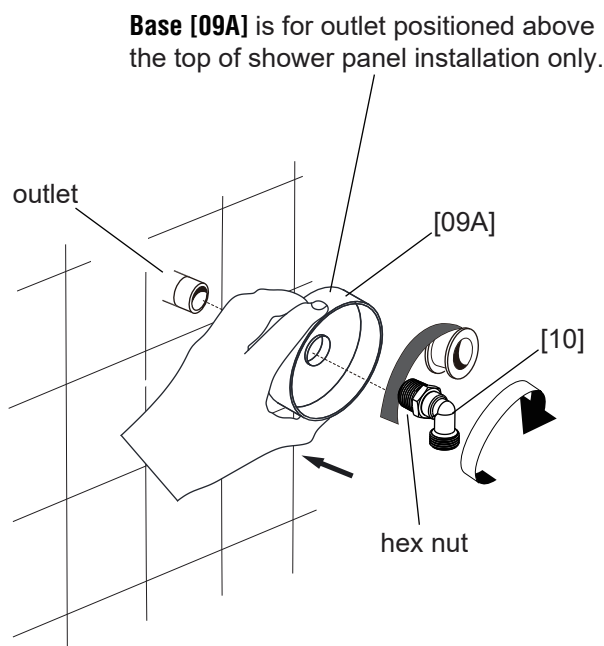

Fig 5.2
- 5-2** Slide the **Base [09A]** on to the **outlet**. The deeper side of the **Base [09A]** faces outside. Install the longer shank of **Nipple [10]** to the outlet and tighten it. Use plumbing tape to ensure good sealing performance. (Fig 5.2)